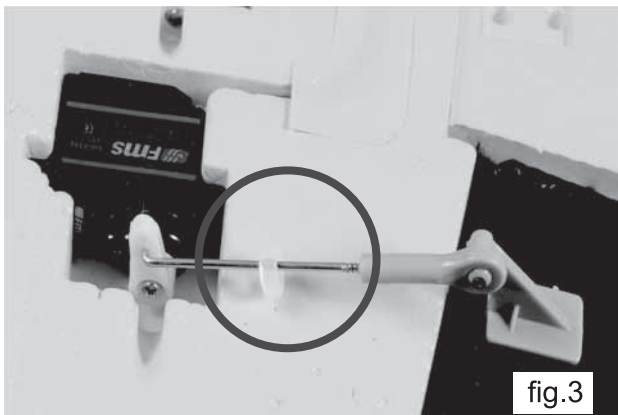

fig.3
- 3) Slide the provided piece of fuel tubing over the control rod linkage and then insert the control rod linkage thru the desired hole in the aileron servo arm (fig. 3). Note: For a single rate transmitter use the first hole to achieve a high rate setting. Use the third hole nearest the servo to achieve a low rate setting.